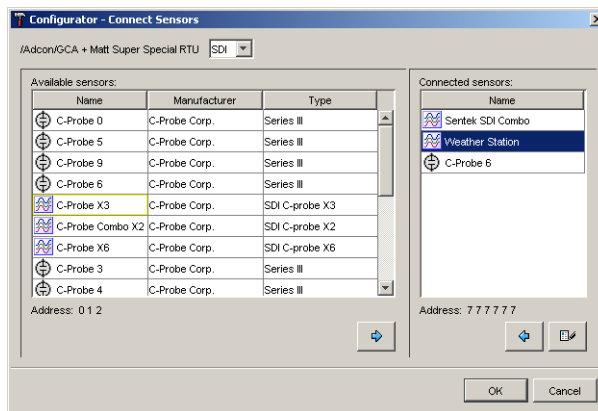

Figure 17. Connecting SDI-12 Sensors
- Click **Connect** in the **Sensors** section (you can also right-click a sensor and select **Connect Sensors** from the pop-up). The window shown Figure 17 is displayed.